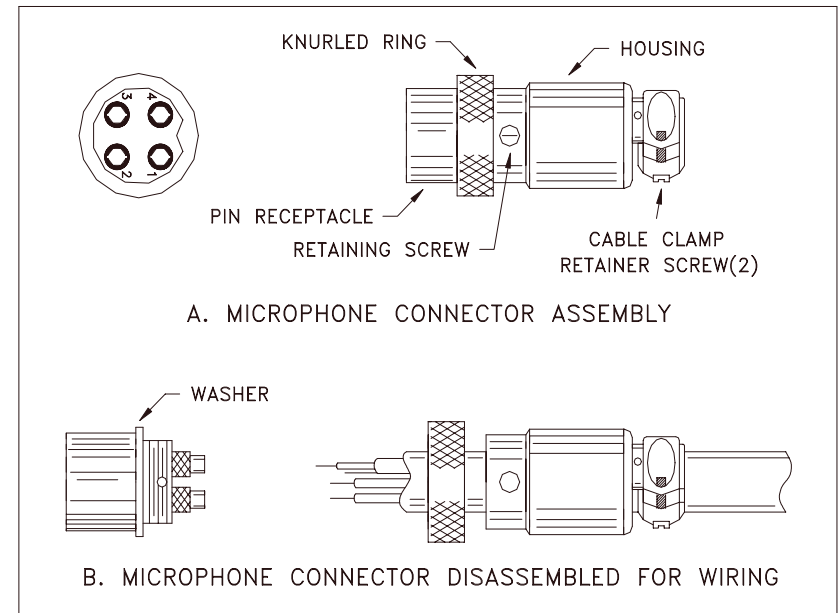

Fig. 4 Microphone plug wiring
4. Feed the microphone cable through the housing, knurled ring and washer as shown Fig. 4.